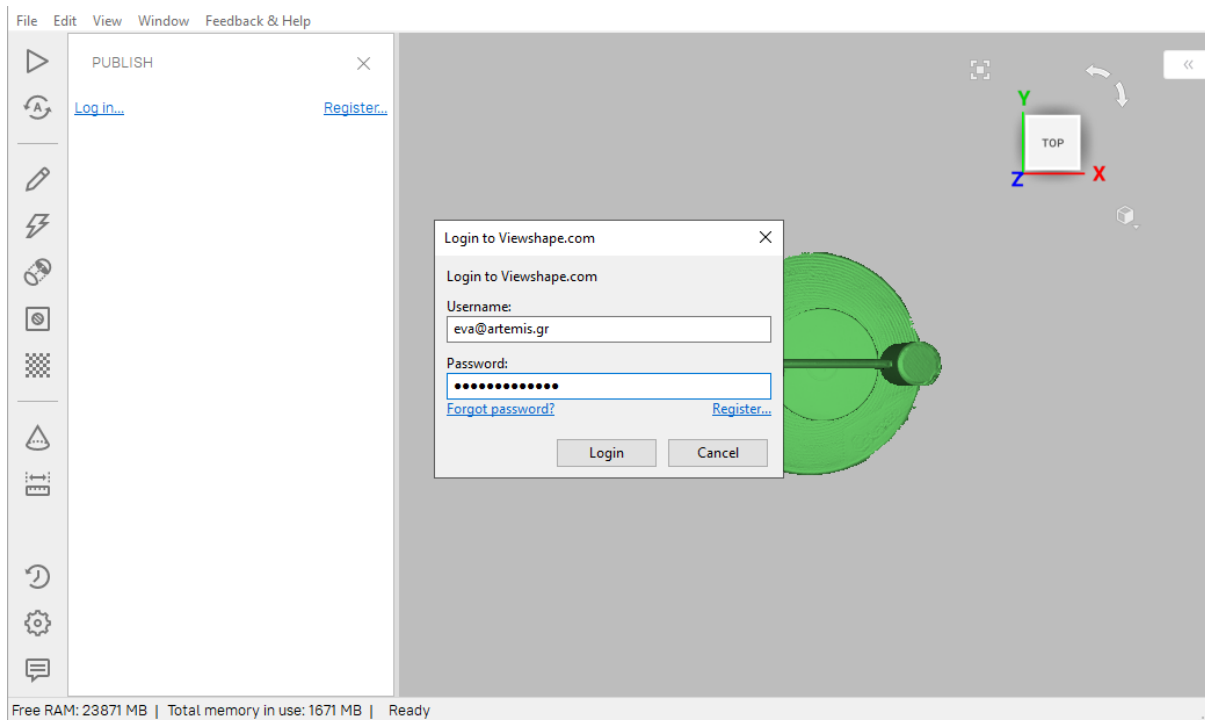

Figure 128: Viewshape.com login window.
4. Specify your *my.artec3d* email and password in the window that opens (see Figure 128).